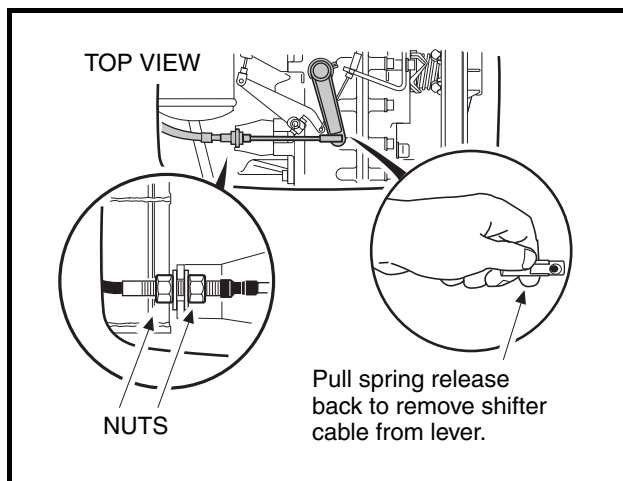

Figure 18-15 Shifter Cable
- 4.7. Loosen nuts securing shifter cable to shifter cable mounting bracket. Then disconnect the shifter cable rod end from the shifter arm on the unitized transaxle and remove the cable from the cable mounting bracket (**Figure 18-15, Page 18-8**).